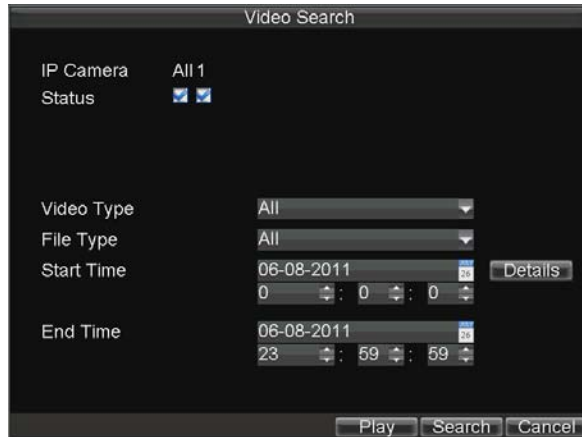

Figure3. Video Search Menu
2. Set the search parameters by selecting cameras to search, video/file type and the start/end time (as shown in Figure 3).